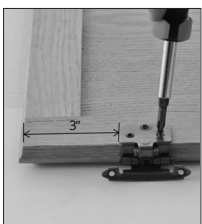

Figure 2
- b) Align the edge of the hinge to the mark as shown in Figure 2.